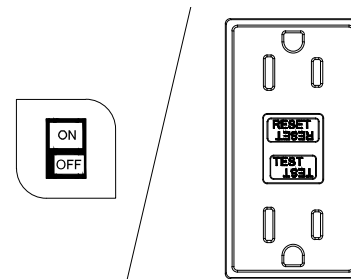

Figure 6
6. Turn on the switch or circuit breaker and test whether the product is working properly. (See Figure 6)